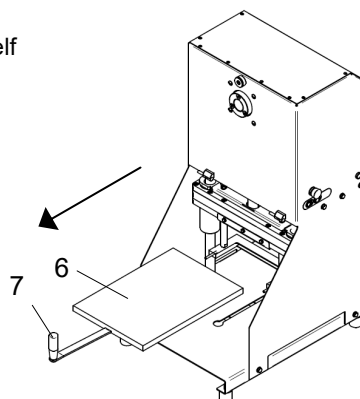

Fig. 7.2.3
(Fig. 7.2.3)
7.3.3 Removing the chopping board (Fig. 7.2.3)